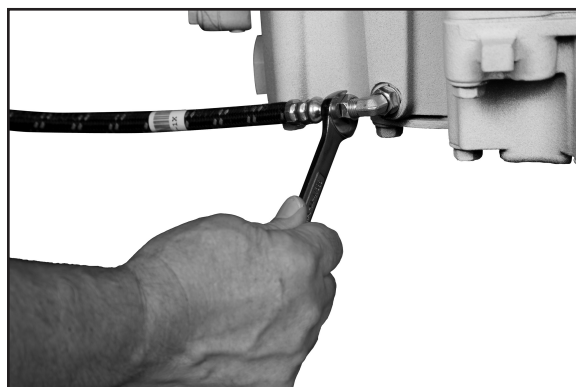

Figure 20
10. Attach hose between PTO valve fitting and High Pressure Port on the transmission (**Fig. 20**).